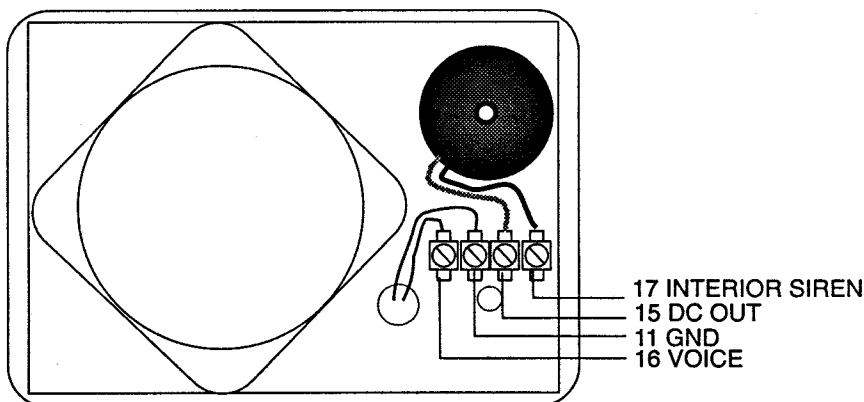

Figure 3.9. Installing the Hardwire Interior Speaker and Piezo
1. Run cable from the CPU to the speaker location. Use 22-gauge or larger 4-conductor stranded wire (see Figure 3.9).